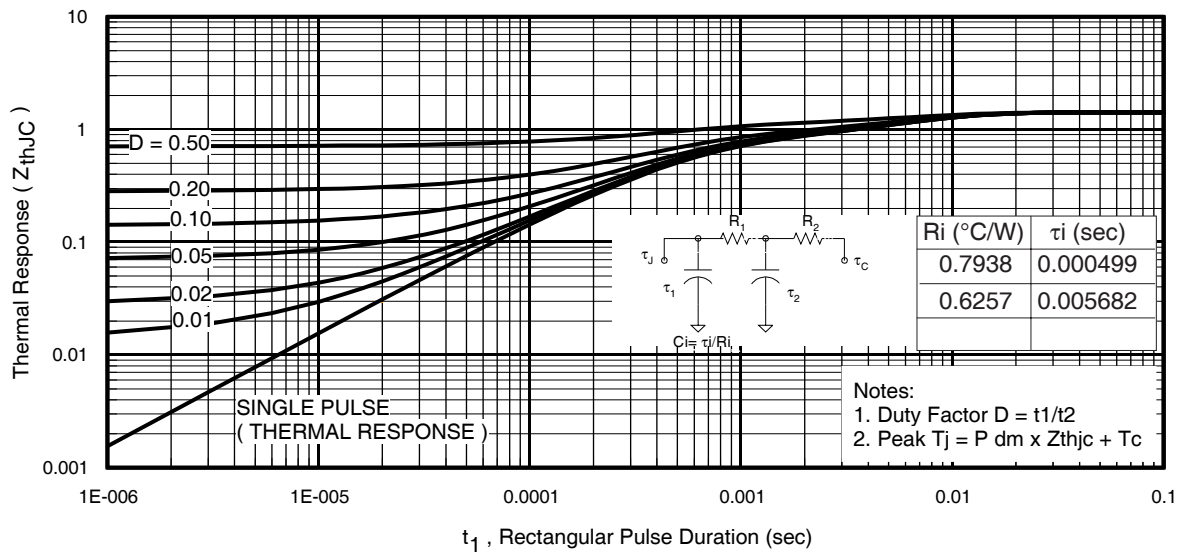
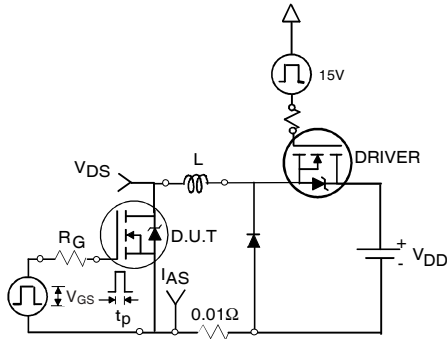

Fig 11. Maximum Effective Transient Thermal Impedance, Junction-to-Case
Fig 12a. Unclamped Inductive Test Circuit
3. Equation below based on circuit and waveforms shown in Figures 12a, 12b.
$Z_{thJC}(D, t_{av})$ = Transient thermal resistance, see figure 11)
- ① Repetitive rating; pulse width limited by max. junction temperature. (See fig. 11).
- ② Limited by T_{Jmax} , starting $T_J = 25^\circ C$, $L = 0.197mH$, $R_G = 25\Omega$, $I_{AS} = 32A$, $V_{GS} = 10V$. Part not recommended for use above this value.
- ③ Pulse width $\leq 1.0ms$; duty cycle $\leq 2\%$.
- ④ C_{oss} eff. is a fixed capacitance that gives the same charging time as C_{oss} while V_{DS} is rising from 0 to 80% V_{DSS} .
- ⑤ Limited by T_{Jmax} , see Fig.12a, 12b, 15, 16 for typical repetitive avalanche performance.
- ⑥ This value determined from sample failure population. 100% tested to this value in production.
- ⑦ When mounted on 1" square PCB (FR-4 or G-10 Material). For recommended footprint and soldering techniques refer to application note #AN-994
- ⑧ R_θ is measured at T_J approximately $90^\circ C$